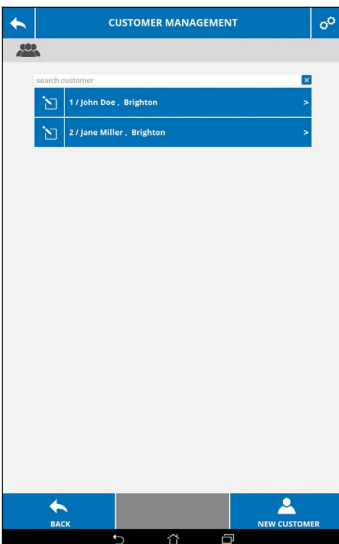

Fig. 26: Customer management
- In CUSTOMER MANAGEMENT tap the arrow (>) in the same line as the customer file (see Fig. 26) to access the previously created projects, properties and multi-point tests.
In the Customer management menu (see. Fig. 26) tap the Edit icon on the left next to the file you wish to delete.